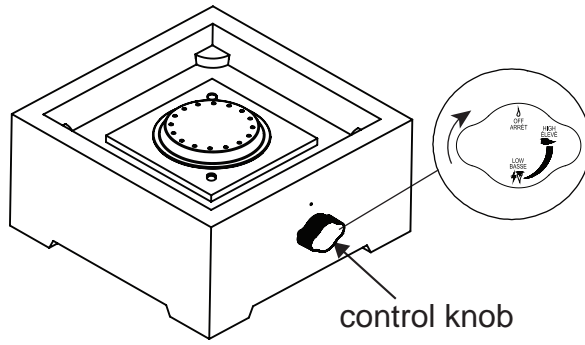

Figure 1
- Check that the control knob is turned to the "OFF" position before starting any assembly (see Figure 1).